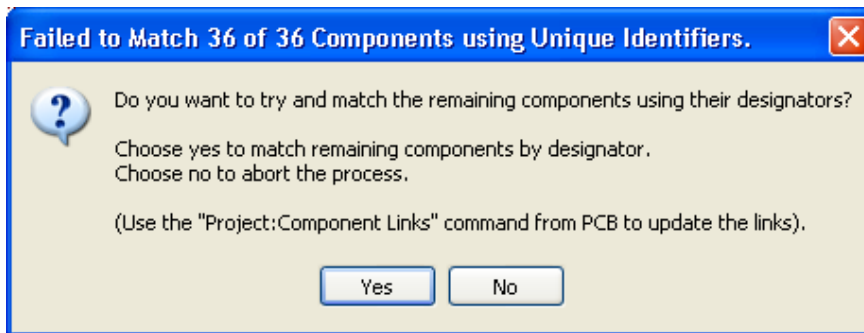

Figure 4. Warning of component unique ID's not matching.
- Components not matching (Figure 4). By default Altium Designer attempts to match the component on the schematic with the component on the PCB, using the Unique ID (UID). If there are any miss-matches the *Failed to Match* dialog will open, offering to attempt to match by designator instead. Generally it is better to resolve the UID mismatches, rather than matching by designator. To check and resolve unmatched UIDs, select **Project » Component Links** when the PCB is the active document.